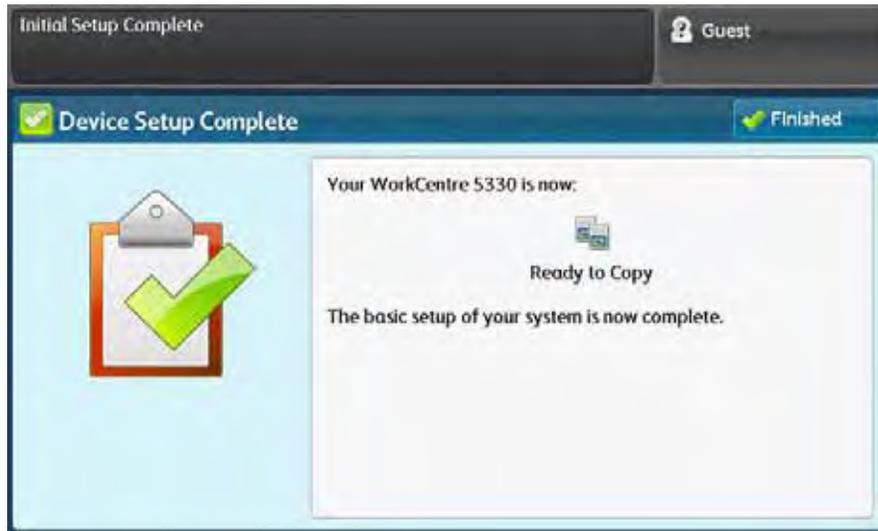

Figure 10 Device Setup Complete screen
9. (Figure 10) The Device Setup Complete screen displays. Select **Finished**.